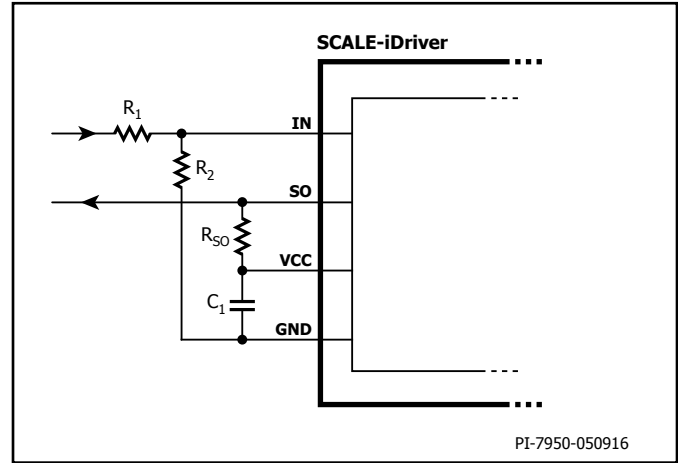
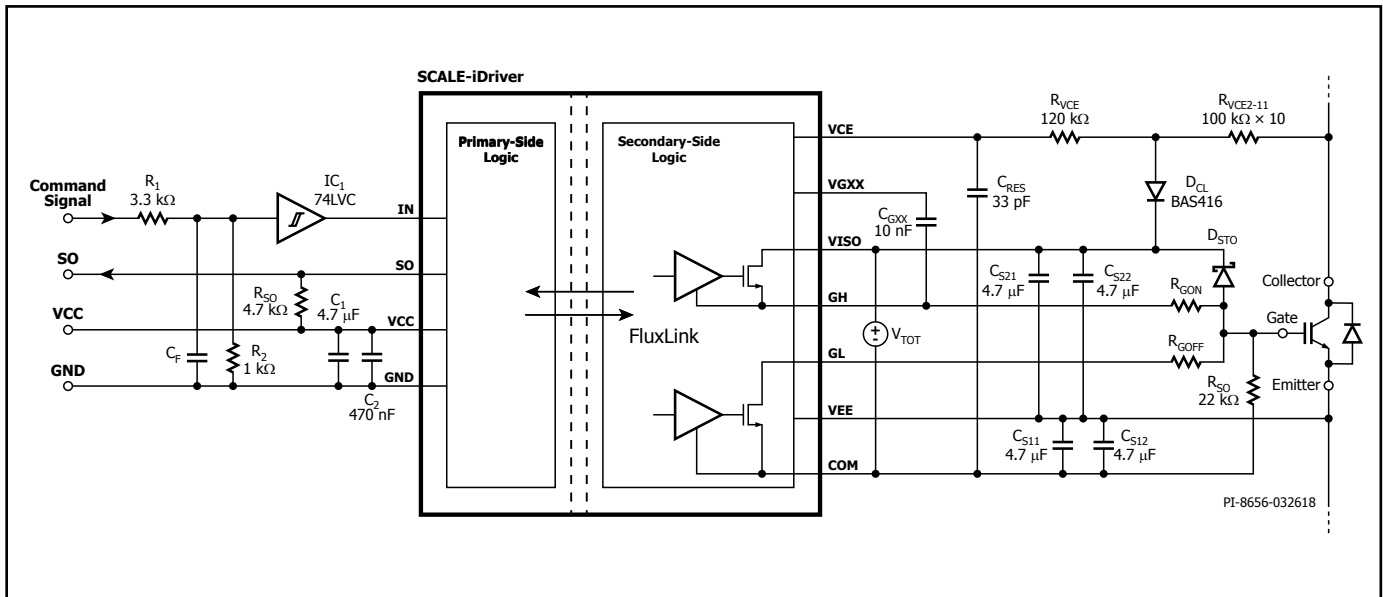

Figure 5. Increased Threshold Voltages  $V_{IN+LT}$  and  $V_{IN+HT}$  For  $R_1 = 3.3 \text{ k}\Omega$  and  $R_2 = 1 \text{ k}\Omega$  the IN Logic Level is 15 V.
Figure 13. SCALE-iDriver Application Example Using a Resistor Network for Desaturation Detection.
The input (IN) and output (SO) logic is designed to work directly with micro-controllers using 5 V CMOS logic. If the physical distance between the controller and the SCALE-iDriver is large or if a different logic level is required the resistive divider in Figure 5, or Schmitt-trigger ICs (Figures 13 and 14) can be used. Both solutions adjust the logic level as necessary and will also improve the driver's noise immunity.
and power-down. Any supply voltage related to VCC, VISO, VEE and VGXX pins should be stabilized using ceramic capacitors  $C_1$ ,  $C_{S1X}$ ,  $C_{S2X}$ ,  $C_{GXX}$  respectively as shown in Figures 13 and 14. After supply voltages reach their nominal values, the driver will begin to function after a time delay  $t_{START}$ .
Figures 13 and 14 show the schematic and typical components used for a SCALE-iDriver design. In both cases the primary-side supply voltage ( $V_{VCC}$ ) is connected between VCC and GND pins and supported through a supply bypass ceramic capacitor  $C_1$  (4.7  $\mu$ F typically). If the command signal voltage level is higher than the rated IN pin voltage (in this case 15 V) a resistive voltage divider should be used. Additional capacitor  $C_F$  and Schmitt trigger  $IC_1$  can be used to provide input signal filtering. The SO output has 5 V logic and the  $R_{SO}$  is selected so that it does not exceed absolute maximum rated  $I_{SO}$  current.
Figure 13 shows how switch desaturation can be measured using resistors  $R_{VCE2} - R_{VCE11}$ . In this example all the resistors have a value of 100 kΩ using 1206 package. The total resistance is 1 MΩ. The resistors should be chosen to limit current to between 0.6 mA to 0.8 mA at maximum DC-link voltage. The sum of  $R_{VCE2} - R_{VCE11}$  should be approximately 1 MΩ for 1200 V semiconductors and 500 kΩ for 600 V semiconductors. In each case the resistor string must provide sufficient creepage and clearance distances between collector of the semiconductor and SCALE-iDriver. The low leakage diode  $D_{CL}$  keeps the short-circuit duration constant over a wide DC-link voltage range.
Table 2. PCB Layout and Component Guidelines Referring to Figure 13.
Table 2 (cont). PCB Layout and Component Guidelines Referring to Figure 13.